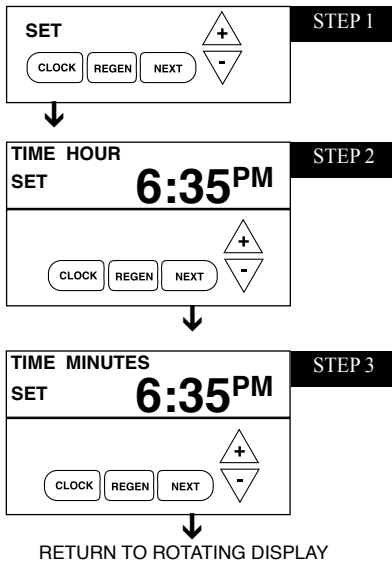

Figure 9
5. Set the time of day by pushing clock button (figure 9, page 8) and using ▲ and ▼ buttons.